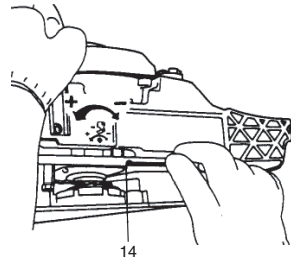

Fig. 9
Turn the adjusting screw (14) counterclockwise to increase the quantity and turn it clockwise to decrease the quantity. (Fig. 9) (standard setting turns counterclockwise 1-1/2 from slightly seated)